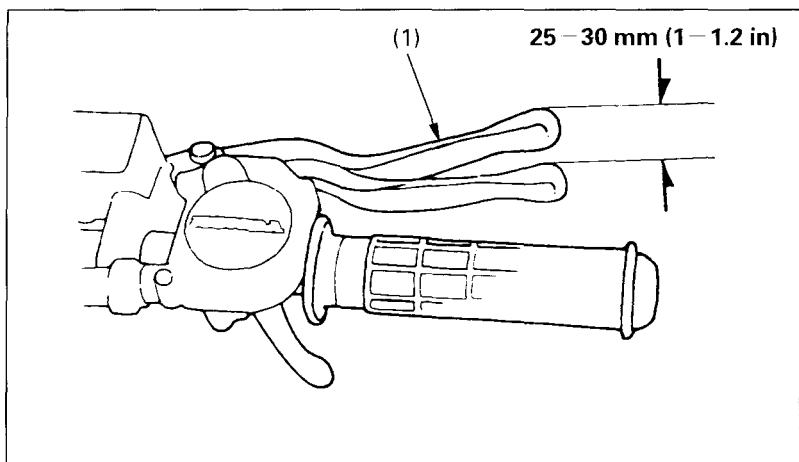

Fig. 4-21
1. Measure the distance the brake lever (Fig. 4-21) moves before the brakes start to take hold. Free play, measured at the tip of the front brake lever (1) should be: